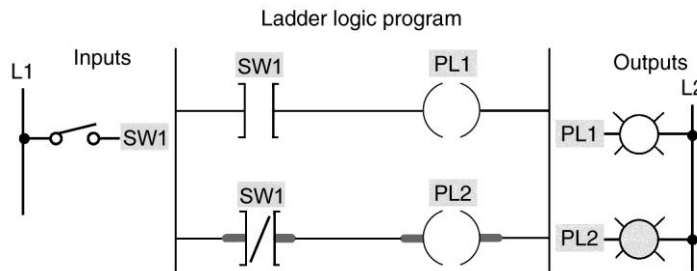

Figure 2-18 Program for assignment 5.
- 5a) Program your controller to operate according to Figure 2-18.